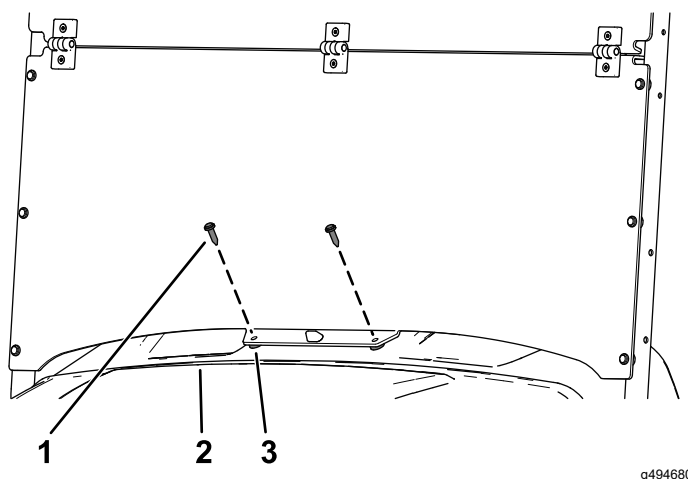

Figure 10
6. Secure the bottom of the lower portion of the windshield to the dash using 2 plastic spacers and 2 long plastic rivets (Figure 10).